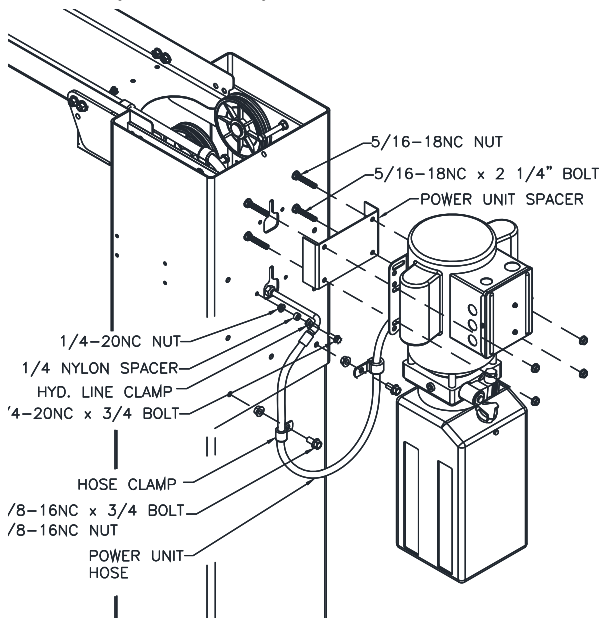

Fig. 16a – Power Unit Hose
- 37) Attach power unit hose to power column extension as seen in **Fig. 16a**. Connect power unit hose to tee from **Fig. 15b** and remove slack from power column hose. Tighten loose fittings and clamps from previous steps.